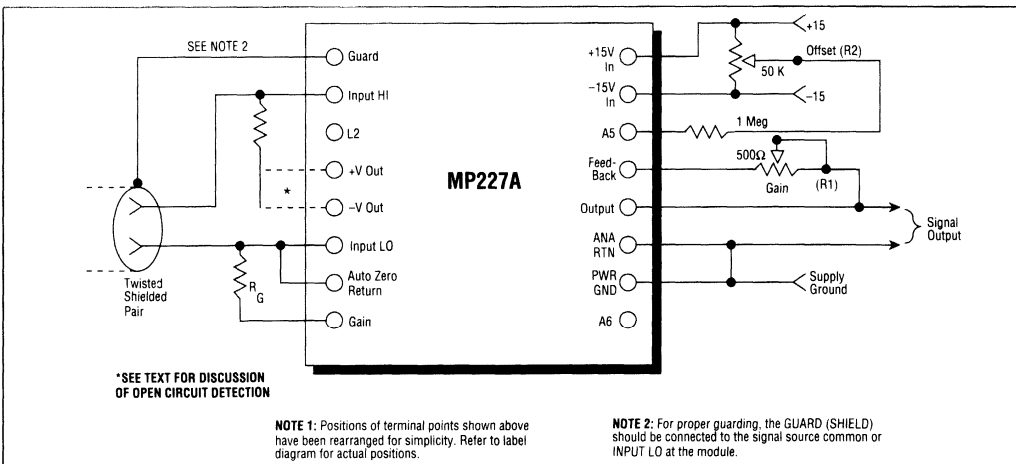

Figure 5. Typical External Connections – MP227A
25k or 50 k $\Omega$  (100 ppm/ $^{\circ}$ C or better) multi-turn potentiometer (R2) with a 1 M $\Omega$  resistor as shown in Figure 5. To adjust, momentarily short INPUT HI, INPUT LO, and AZ RTN to the output ANA RTN and set the offset potentiometer for zero output at the OUTPUT terminal.
The gain of the MP227A may be set to any value from 10 to 1000 by connecting an external resistor (RG) between the GAIN and INPUT LO terminals as shown in Figure 5.
The gain may be deliberately fine-trimmed, if desired, by connecting a 500 $\Omega$  (100 ppm/ $^{\circ}$ C or better) potentiometer (R1) between the FEEDBACK and OUTPUT terminals as shown in Figure 5. R1 compensates for the tolerance of RG plus the unit-to-unit gain variability (3%) between multiple MP227As. This also allows standardization of the outputs of multiple MP227As to a common full-scale range. For volume production where cost is a factor, the trimpot may be replaced with a fixed resistor selected during final testing.